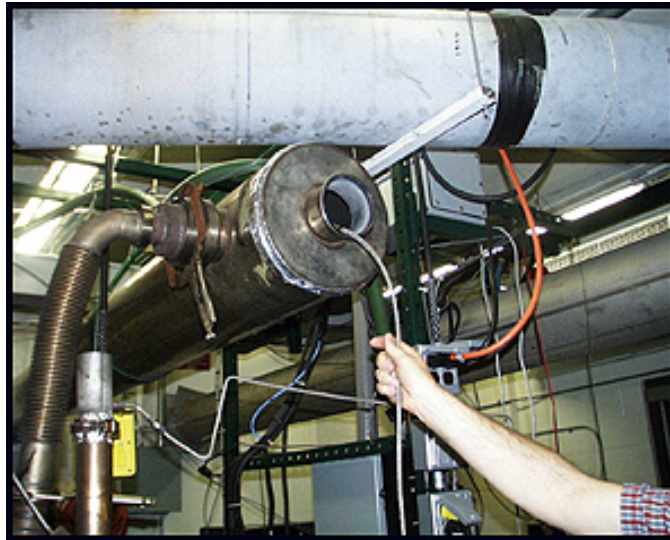

Figure 18
- 125 Return to the test cell and insert the propane kit rosette in the dilution tunnel. See Figure 18. Set the propane kit pressure to 85 psi.